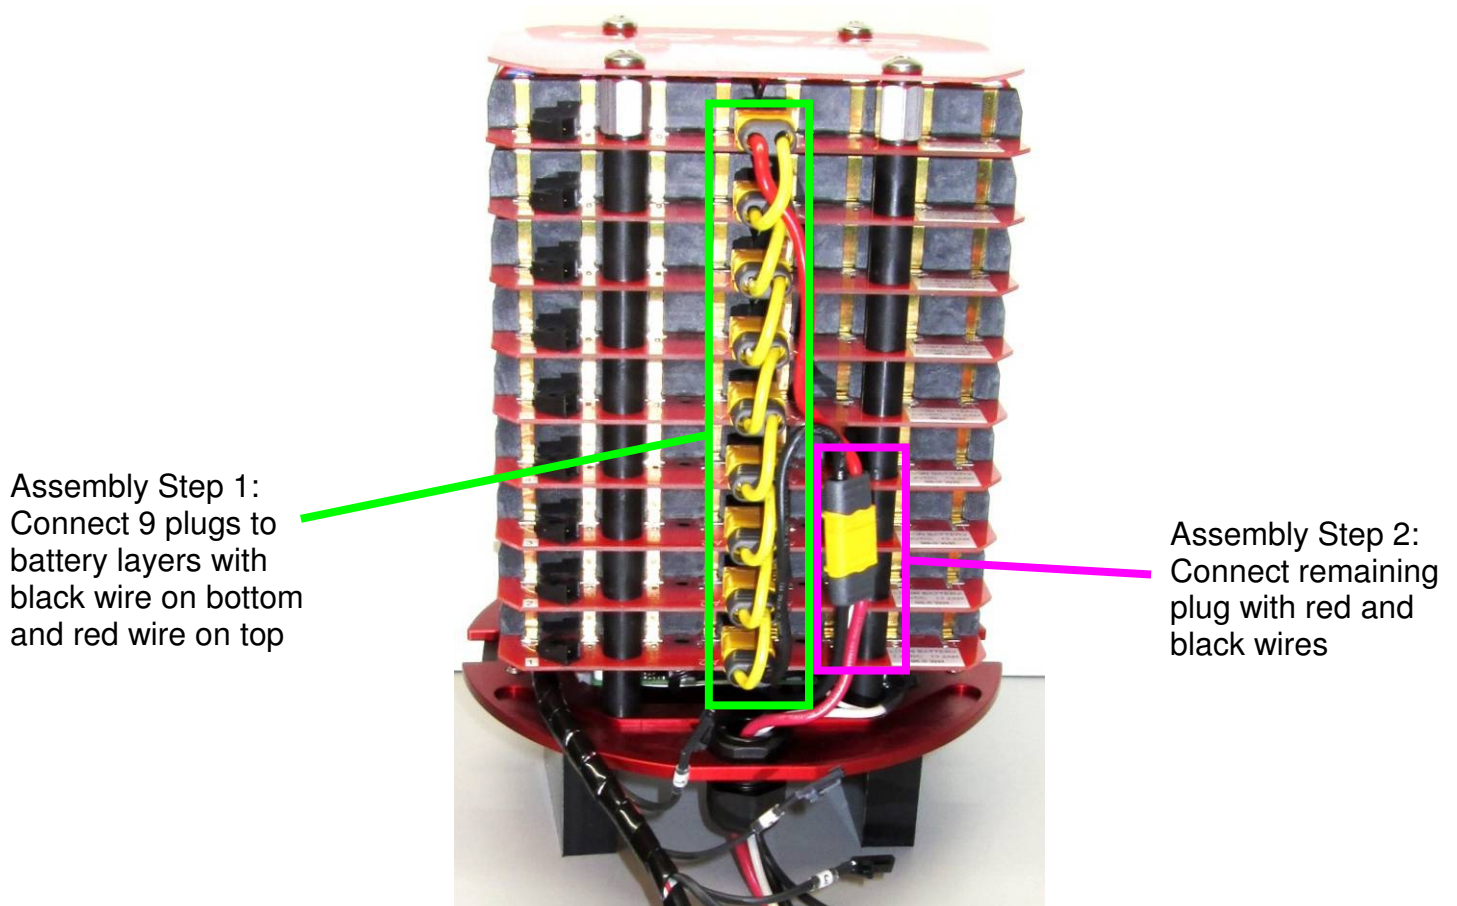

Figure 6
1. Locate the Genesis 2.1 yellow wiring harness (Figure 5) and connect to the BATTERY LAYERS ONLY as shown in Figure 6, starting from the bottom layer with the black wire and working up.
3. Remove the single yellow connector with red and black wires (Figure 6 – pink outline)
4. Remove the 9 yellow connectors from the battery layers (Figure 6 – green outline)